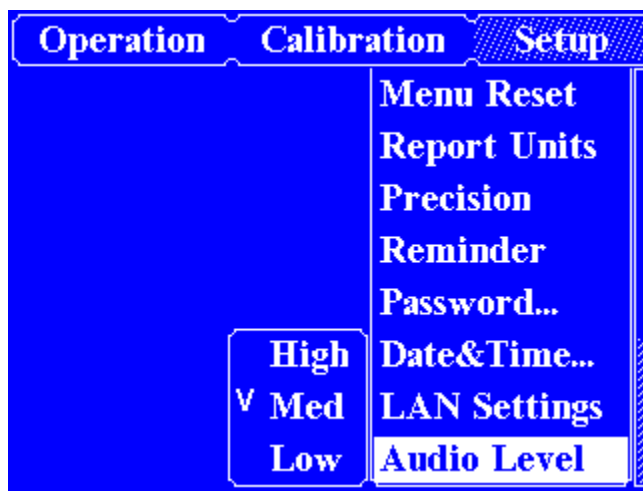

Figure 5-25. Audio Level Setup Screen
2. Use ← key to high-light an item and press Enter to select it. See figure 5-25.